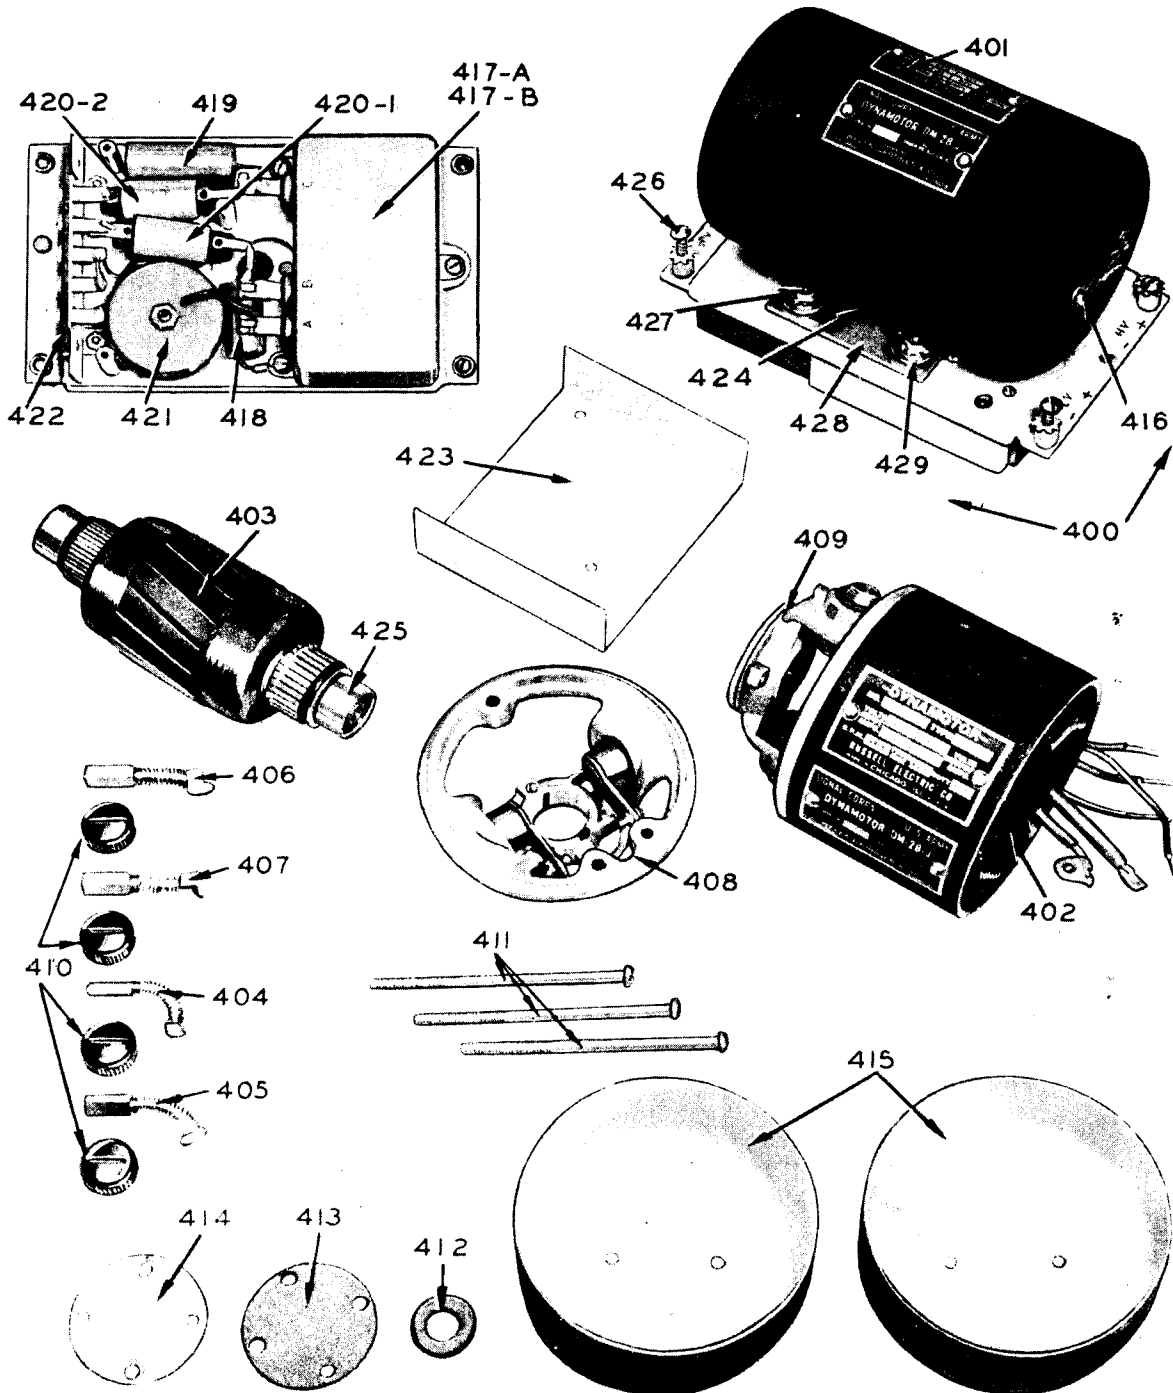

Figure 8 — Dynamotor DM-28-J and Filter
e. ONE YEAR.—Repeat above. Inspect and replace dynamotor brushes if necessary. Lubricate dial and tuning capacitor drive mechanism. Check dynamotor and tube socket voltages as described in Paragraphs 34*e*(1) and 34*b*(1).
a. REMOVAL FROM CHASSIS.—The dynamotor and filter assembly (Figure 8, reference 400) may be removed easily from the receiver chassis by repeating the following steps in the order given:
(1) Loosen two thumbscrews 299 on the front panel, and remove the chassis from the cabinet.
(2) Loosen the five screws on the dynamotor terminal strip 422, and withdraw the five leads with spade terminals from under them. Retighten the five screws partially in order that they will clear the chassis when the dynamotor is removed.
(3) Push the left (from front of chassis) thumb-screw rod stop spring towards the end plate with a screw-driver, and withdraw thumbscrew rod 299 until the second stop position is reached.
(4) Loosen the four captive screws 426 which fasten the dynamotor to the chassis, and lift the dynamotor vertically from the receiver.